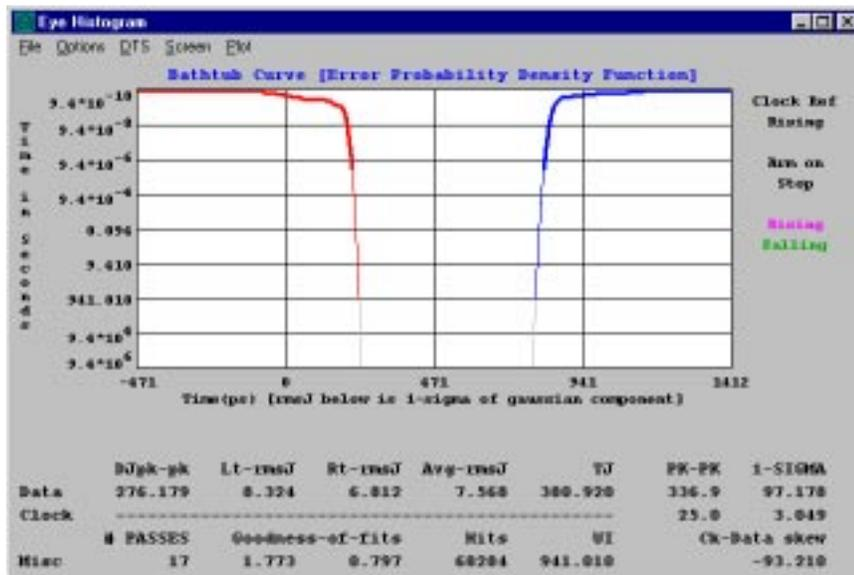

Figure 6.47 Eye Histogram - Bathtub Curve
To view the Bathtub plot, select the **Plot** pull-down menu and choose **Bathtub Curve**. The resulting Bathtub plot (See Figure 6.47) is based on the total jitter probability distribution function (PDF) of the raw histogram with extrapolated tails calculated from the tail-fit. The Total Jitter is extracted directly from the Bathtub Plot. Note: For Spectrum Panel only - The Total jitter Specification (UI) that is used for this calculation is User Defined, make sure that reasonable values are assigned for this as well as the Bit Error Probability.